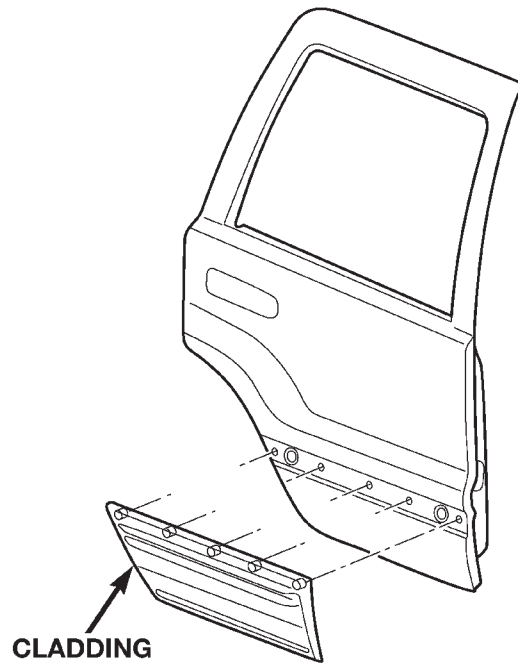

Fig. 54 Rear Door Cladding
- (1) Open the rear door.
- (2) Using a trim stick, pry the upper rear edge off the door. Continue towards the front edge of the rear door (Fig. 54).
- (3) Using a heat gun, warm the adhesive tape on the bottom of the cladding and remove the cladding.